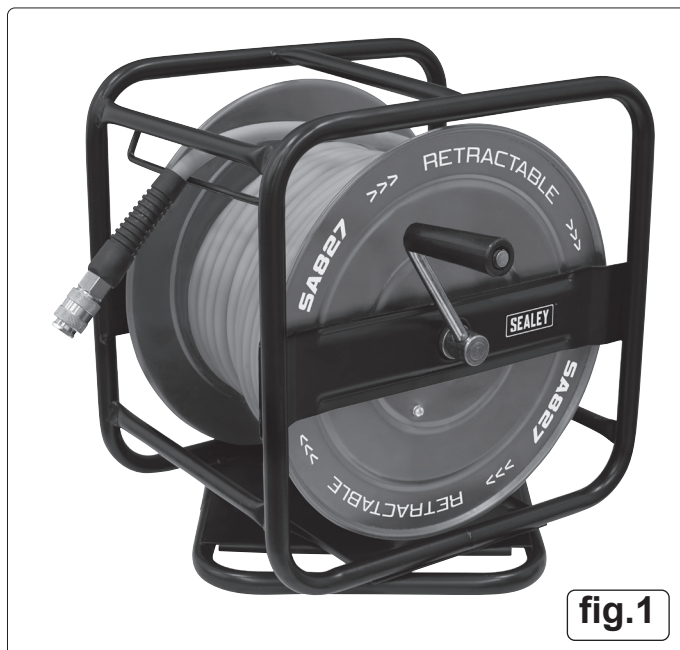

fig.1
- 4.2.1. Assemble as in fig.1.